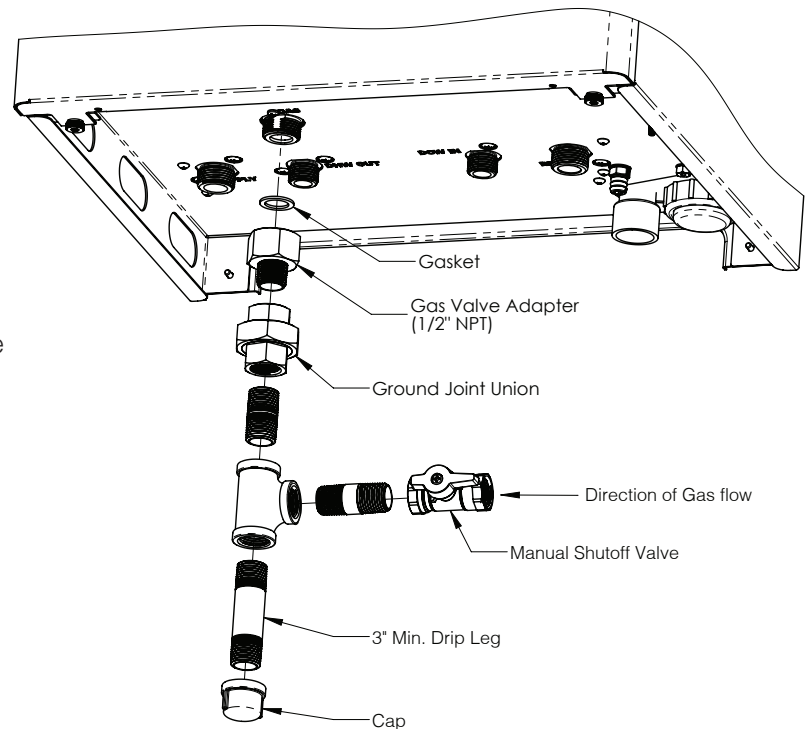

Figure 12-1: Gas Piping
2. Use methods and materials in accordance with local plumbing codes. In absence of such requirements, follow NFPA 54/ANSI Z2223.1 *National Fuel Gas Code* and/or CAN/CSA B149.1 *Natural Gas and Propane Installation code*. Figure 12-1 shows typical gas piping and connection to boiler.